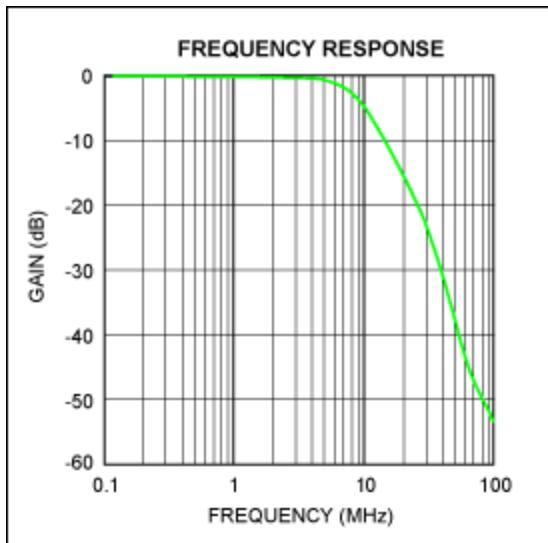
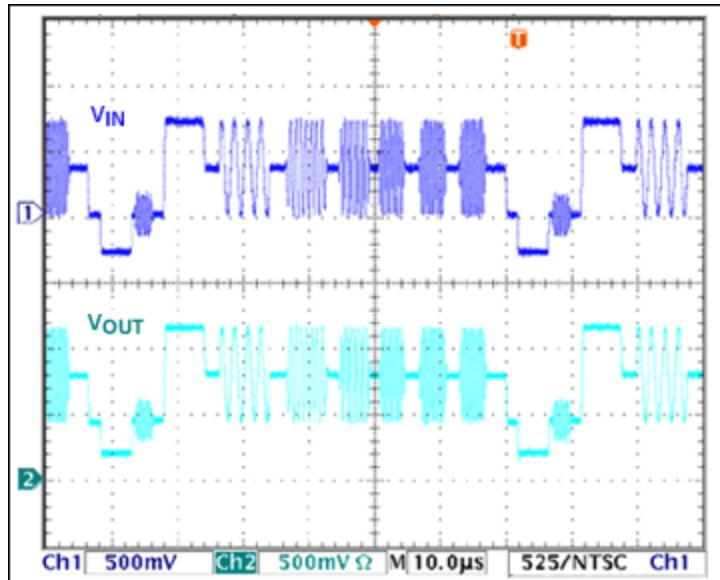

Figure 2. Frequency response.
Figure 3. Multiburst response.
**Figure 2** shows the frequency response for  $R1 = R2 = 150\Omega$ . At 6MHz, the attenuation is about 1.4dB. The attenuation at 27MHz is about 20dB. **Figure 3** shows the multiburst response for  $R1 = R2 = 150\Omega$ .